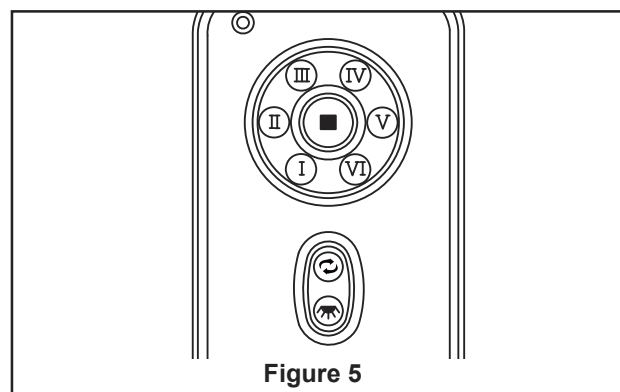

Figure 5
- 5. Secure the glass to light kit assembly by twisting in a clockwise direction. Do not over-tighten. (Figure 5)
7. Remote functions: (Figure 5)